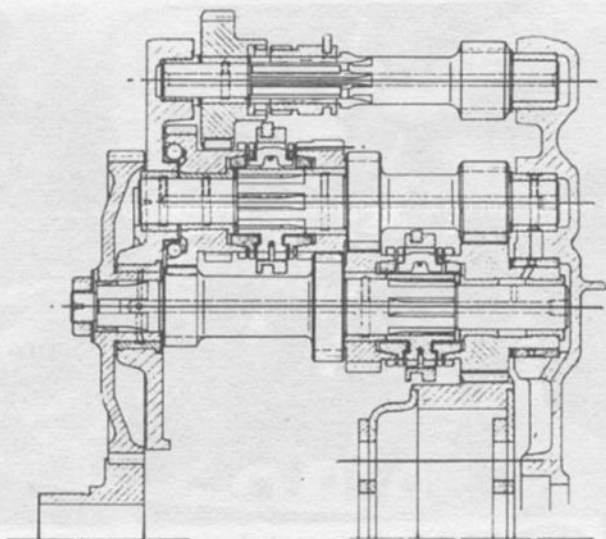

FIG 6:6 Cross section of gearbox
- 5 During refitting the mainshaft first refit the third-speed gear which has 26 teeth. Take care that when installing the three keys from the synchromesh unit the spring ring is not bent. The splined end of the inner shift gear and the thicker collar of the outer shift gear face must face towards the right with the thrust washer placed between the synchromesh unit and the drive gear as shown in FIG 6:7.